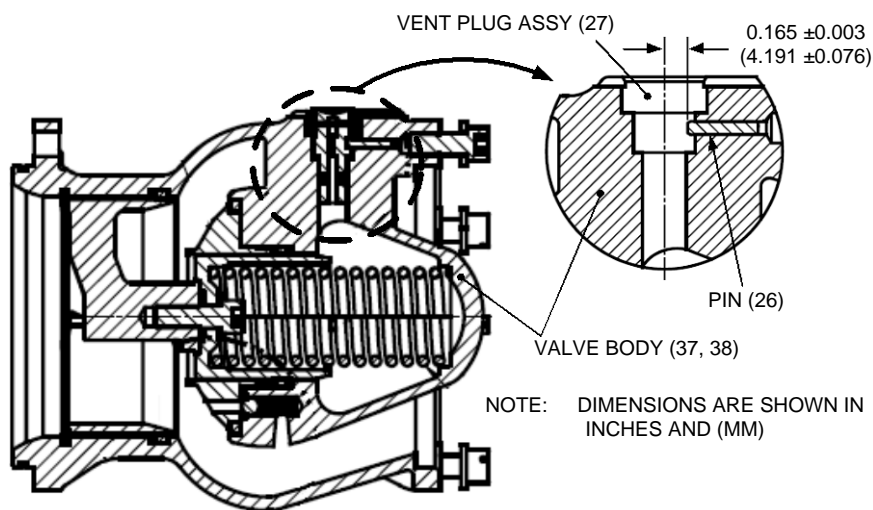

Figure 6. (F595) Pin in Valve Body Detail
(F595) If removed, press a new pin (26) into the pin bore of the body (38), to the dimension shown in Figure 6.
B. Apply petroleum jelly to new O-ring (14) and put spring (16), ball bearing (15), and O-ring (14) in body (37, 38).
C. Apply petroleum jelly to new O-ring (18) and new seal (19); then put O-ring (18) on seal (19) and install in body (37, 38).
D. Apply petroleum jelly to new O-ring (17) and put it on the shoulder of retainer (13). Put retainer (13) along with O-ring (17) into body (37, 38); install screws (12) and torque 9 to 11 lb-in. (1 to 1,2 Nm).
E. Apply petroleum jelly to new O-ring (11) and new seal (10); and install in body (37, 38).
F. (F594) Put spring (20), poppet (4) and retaining ring (3) in body (37).